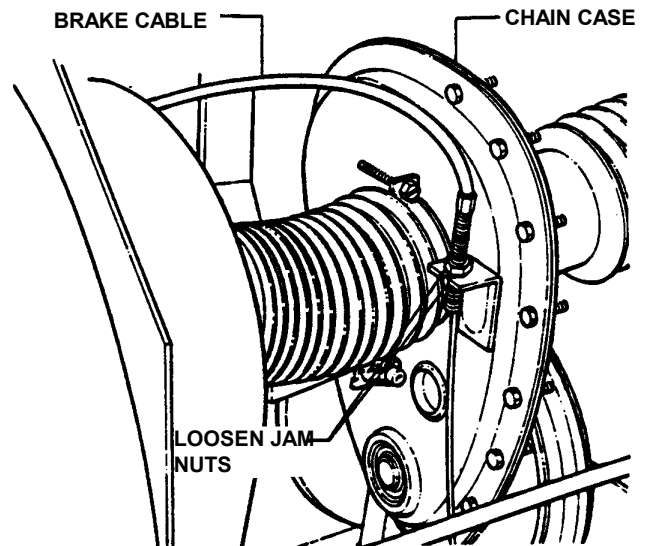

FIGURE 4.10
6. If measurement is less than 1/2" or greater than 3/4", loosen the two jam-nuts (shown in Figure 4.10) holding the clutch/brake cable to the chain case bracket.
5. Move transmission shift lever to the neutral (N) position.
6. Rotate clutch yoke (clutch yoke shown in Figure 4.10) out with your hand and work belt between drive disc and rubber driven disc.